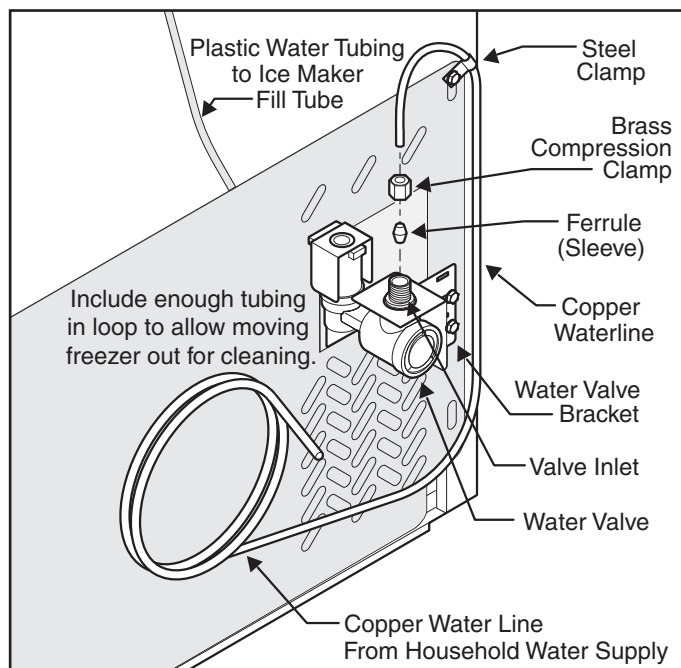
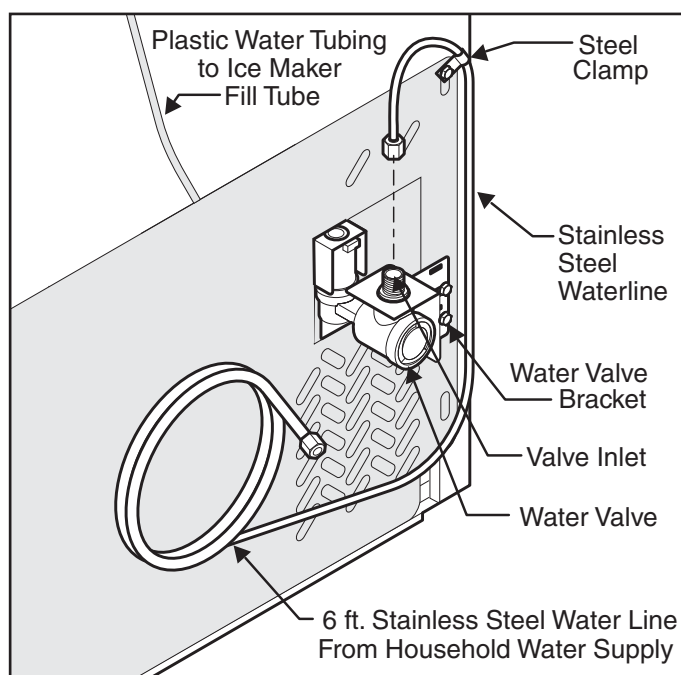

Figure 2-4. Copper Water Line Connection
Figure 2-5. Stainless Steel Water Line Connection
4. If you use copper tubing - Slide brass compression nut, then ferrule (sleeve) onto water supply line. Push water supply line into water valve inlet as far as it will go ($\frac{1}{4}$ inch / 6.4 mm). Slide ferrule (sleeve) into valve inlet and finger tighten compression nut onto valve. Tighten another half turn with a wrench; DO NOT over tighten. (See Figure 2-4). If you use stainless steel tubing - The nut and ferrule are already assembled on the tubing. Slide compression nut onto valve inlet and finger tighten compression nut onto valve. Tighten another half turn with a wrench; DO NOT over tighten. (See Figure 2-5).